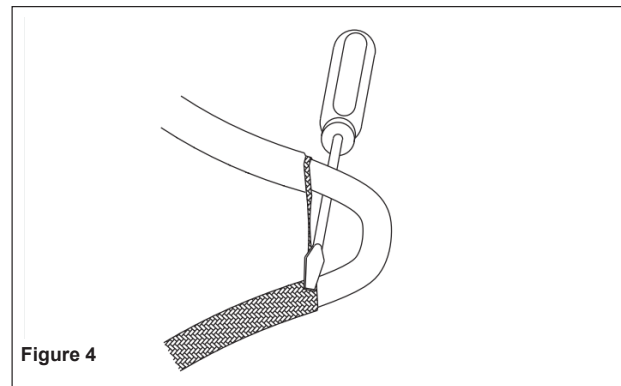

Figure 4
4. While bending the heating cable, work the cable through the braid opening (Figure 4). Pull the braid tight.